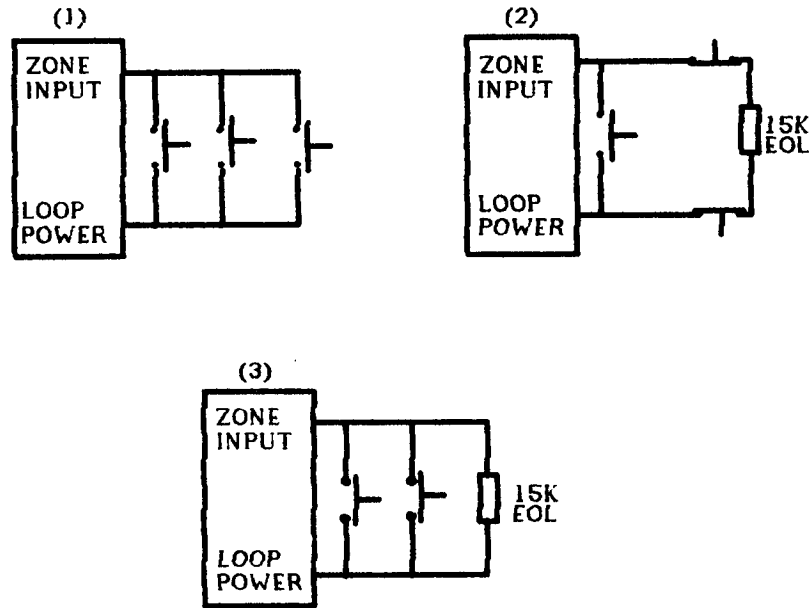

FIGURE 10.1A: MODEL 2730 ZONE WIRING
- * EOL Zones For UL installations you must use an end-of-line resistor in zones that employ any Normally Closed initiating devices. You must also use an EOL resistor in zones that use only Normally Open contact devices. In these zones, a break in the loop or closed contacts will cause an alarm. When you use an EOL resistor you must also program that zone as an EOL zone. (Refer to Figure 10.1A.)
The zones of the Model 2730 can be wired in three basic ways. These three ways are illustrated in Figure 10.1A. Combining these basic zone wiring methods with the various zone programming options, results in a great variety of possible zone configurations. It is recommended that you bench test any configurations before you install the control panel.
NOTE: In UL Certificated installations an end-of-line resistor must be used with each zone as illustrated in Figure 10.1A-(2) and (3). The wiring diagram in Figure 10.1A-(1) is not acceptable for UL Certificated installations.
An EOL resistor MUST be used with any intrusion zone using a Normally Closed initiating device. If you wish, you MAY use an EOL resistor with intrusion zones using only Normally Open initiating devices. (If no EOL is used, the installation will not be acceptable for UL certification.) If you use an EOL, a break in the loop or closed contacts will cause an alarm. An intrusion zone using both Normally Open and Normally Closed initiating devices MUST use an EOL resistor. Any intrusion zone using an EOL resistor must also be programmed as an EOL zone. The end-of-line resistors are Silent Knight Model 7630, 15-K Ω resistors. Refer to Figure 10.1A.